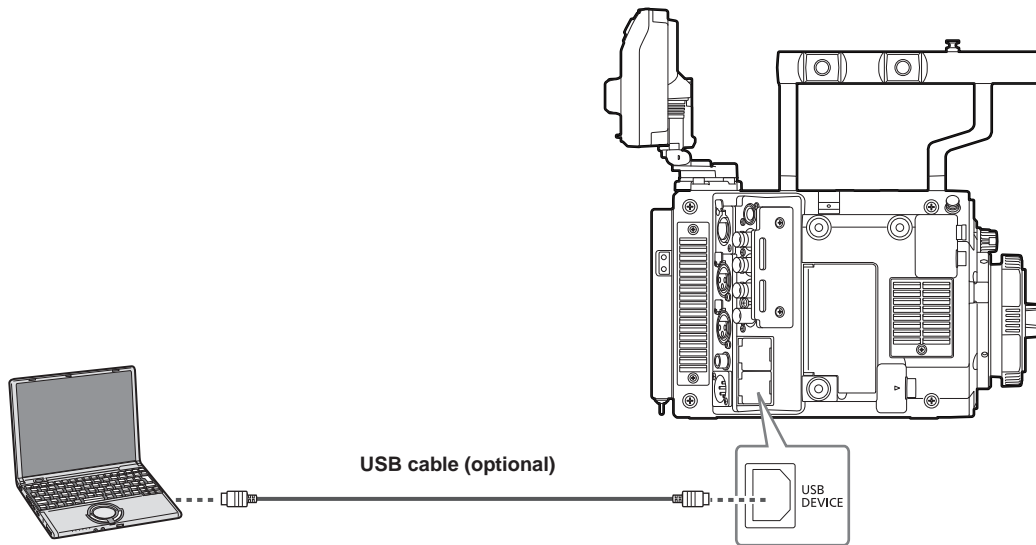

Fig. 1
**1** Connect the USB cable to the <USB DEVICE> terminal (device). (Fig. 1)